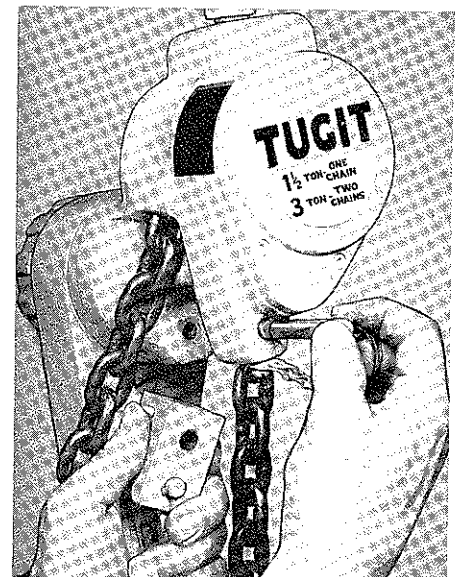

Figure 8-5.
- Withdraw Quick Disconnect Fitting and reinstall Frame Anchor Pin as shown in Figure 8-5.